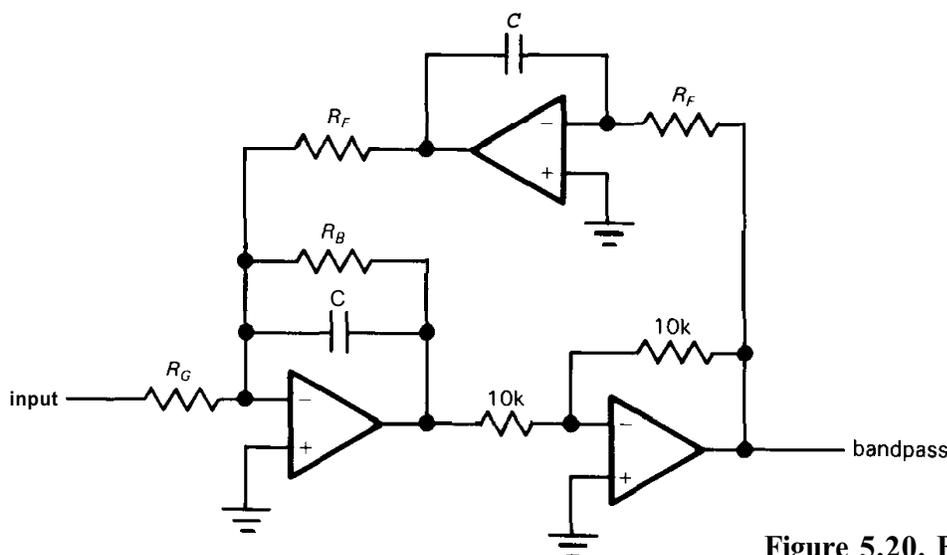

Figure 5.20. Biquad active filter.
**Biquad filter.** A close relative of the state variable filter is the so-called biquad filter, shown in Figure 5.20. This circuit also uses three op-amps and can be constructed from the state-variable ICs mentioned earlier. It has the interesting property that you can tune its frequency (via  $R_F$ ) while maintaining constant **bandwidth** (rather than constant  $Q$ ). Here are the design equations: